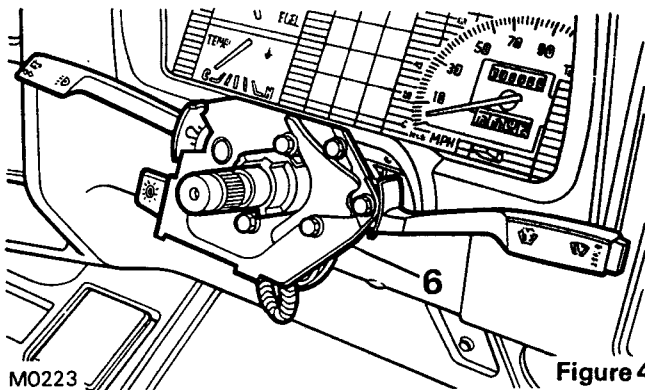

Figure 4
6. Slacken clamping screw and remove multi-switch from steering column, see Figure 4. The wiring plugs have to be disconnected after the instrument binnacle is detached from the fascia.